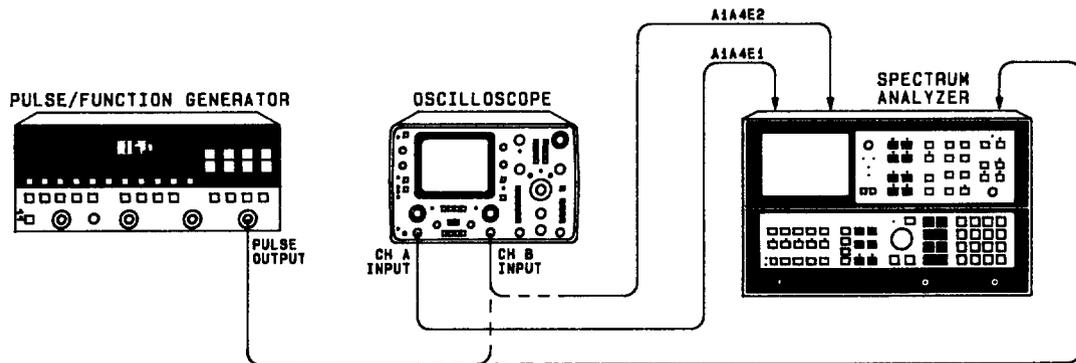

FIGURE 8. PRELIMINARY DISPLAY ADJUSTMENTS SETUP
1. Connect Channel A calibrated 10:1 divider probe to A1A4E1 and Channel B probe to A1A4E2, as shown in Figure 8.